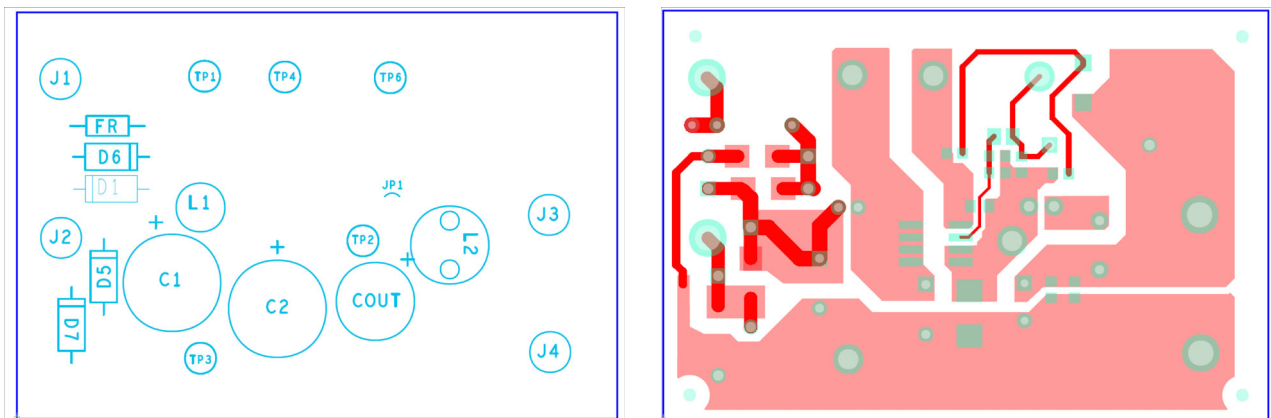

Figure 34. Example PCB Layout
- Place the V_{CC} decoupling capacitor and the FB pin decoupling capacitor close to the pins. A PCB layout example is shown in Figure 34.